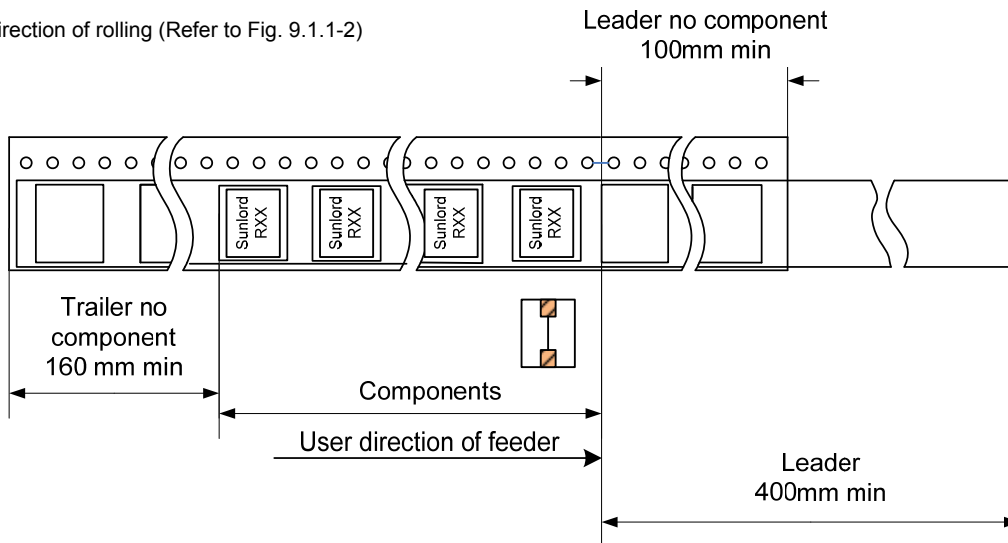

Fig. 9.1.1-2
2) Direction of rolling (Refer to Fig. 9.1.1-2)